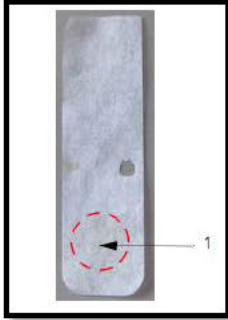

Figure 17 – (1.) “Sampling” area on the swab.
Samples are to be taken using the specifically designed “Wand”. Ensure that only the Smiths supplied sampling swabs are used with the IONSCAN 600, (see Figure 17).
- Remove the verification pen cap and lightly apply a small amount of the verification fluid, no more than a dot, to the “Sample Area” of the swab (see Figure 17);